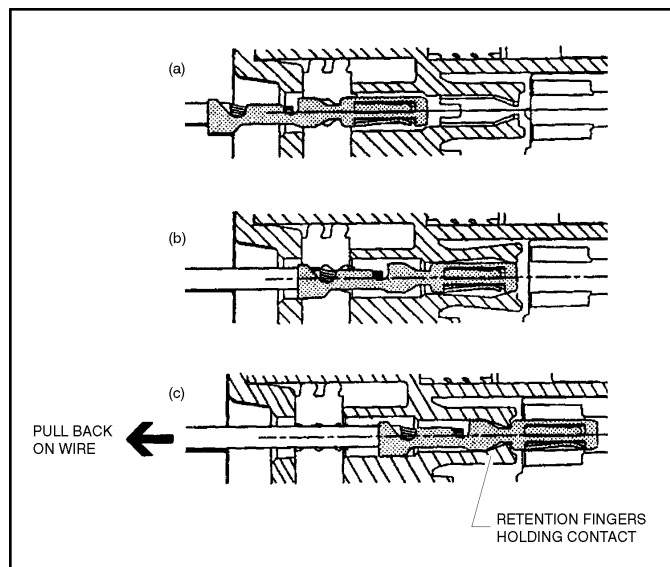

Figure 7-7. Connector Assembly (2 of 4)
1. To insert a contact, push it straight into the appropriate circuit cavity as far as it will go (See Figure 7-7., Connector Assembly (2 of 4)).
2. Pull back on the contact wire with a force of 1 or 2 lb to be sure the retention fingers are holding the contact (See Figure 7-7., Connector Assembly (2 of 4)).